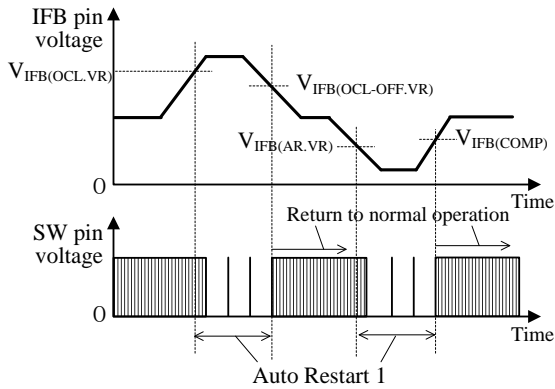
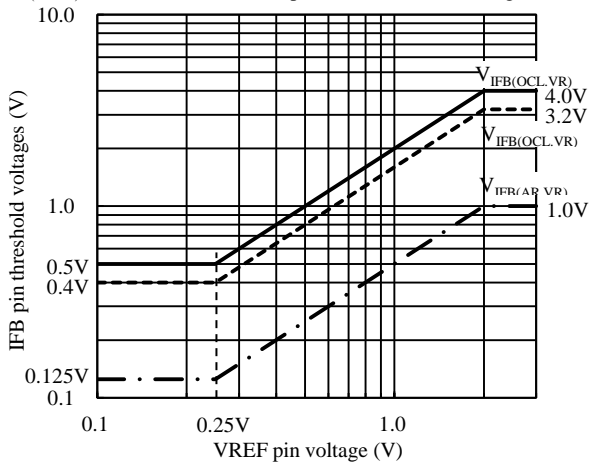

Figure 8-19 IIFB pin threshold voltage and Auto Restart 1 operation
Figure 8-20 VREF pin voltage versus IFB pin threshold voltages
As shown in Figure 8-19, IFB pin has two types of threshold voltage. These threshold voltages depend on the VREF pin voltage, as shown in Figure 8-20.
When the FB pin voltage increase to $V_{IFB(OCL.VR)}$ in Figure 8-20, or more, the operation of the IC switches to Auto Restart 1. When the fault condition is removed and the IFB pin voltage decreases to $V_{IFB(OCL-OFF.VR)}$ in Figure 8-20, or less, the IC returns to normal operation automatically.
When the FB pin voltage decrease to $V_{IFB(AR.VR)}$ in Figure 8-20, or more, the operation of the IC switches to Auto Restart 1. When the fault condition is removed and the IFB pin voltage increases to above $V_{IFB(OMP)}$, the IC returns to normal operation automatically.
- (1) When the IFB pin voltage is increased by the increase of LED current, COMP pin voltage is decreases. In addition, when the COMP pin voltage decreases to the COMP Pin Voltage at Oscillation Stop, $V_{COMP(OFF)} = 0.25$ V or less, the IC stops switching operation, and limits the increase of the output current.
- (2) When IFB pin voltage becomes $V_{IFB(OCL.VR)}$ or more (see Figure 8-20), the IC switches to Auto Restart 1.
- (3) The LED current increases further and when the IFB pin voltage increases to the IFB Pin Overcurrent Protection High Threshold Voltage, $V_{IFB(OCH)} = 4.0$ V or more, the IC switches to Auto Restart 2.
When the LED_OUT (+) or the IFB pin is open and the OVP pin voltage increases to the OVP Pin Overvoltage Protection Threshold Voltage, $V_{OVP} = 3.00$ V, the IC immediately stops switching operation. When the OVP pin voltage decreases to the OVP Pin Overvoltage Protection Release Threshold Voltage, $V_{OVP(OFF)} = 2.75$ V or the IFB pin voltage decreases to $V_{IFB(AR.VR)}$ in Figure 8-20, then the IC switches to Auto Restart 1.
When the LED_OUT (-) and the GND are shorted, and the IFB pin voltage decreases to $V_{IFB(AR.VR)}$ in Figure 8-20, then the IC switches to Auto Restart 1.
When the output current detection resistor (R15, R61), is shorted, the IFB pin voltage decreases. When the IFB pin voltage decreases to $V_{IFB(AR.VR)}$ in Figure 8-20, then the IC switches to Auto Restart 1.